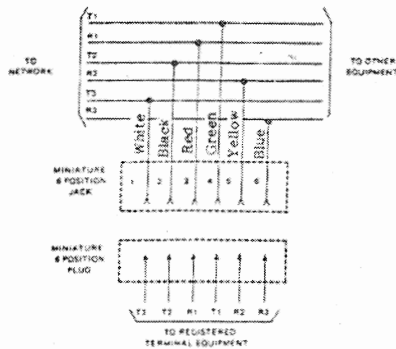

FIGURE 15
**07.16** The various manufacturers of modular station blocks have employed different color codes to indicate the sequence of pairs in their blocks. However, the color code most commonly used is shown in Figure 15. Verify the configuration of your modular blocks before connecting the station cables.
**07.21** Intercom codes are assigned permanently to specific MSTU cable appearances in STRATA VI. Make sure the station cables are connected to the proper terminals (Figure 15).